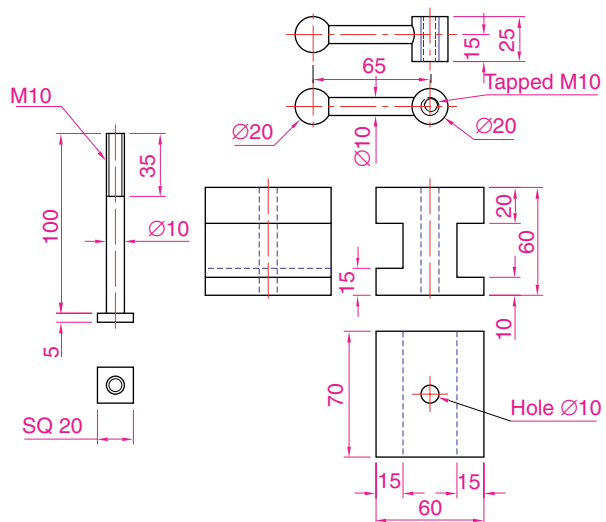

Fig. 7.27 Exercises 4 and 5 – orthographic projections of the three parts of the tool holder
4. Construct a three-view orthographic projection in an angle of your own choice of the tool holder assembled as shown in the isometric drawing in Fig. 7.26. Details are given in Fig. 7.27.